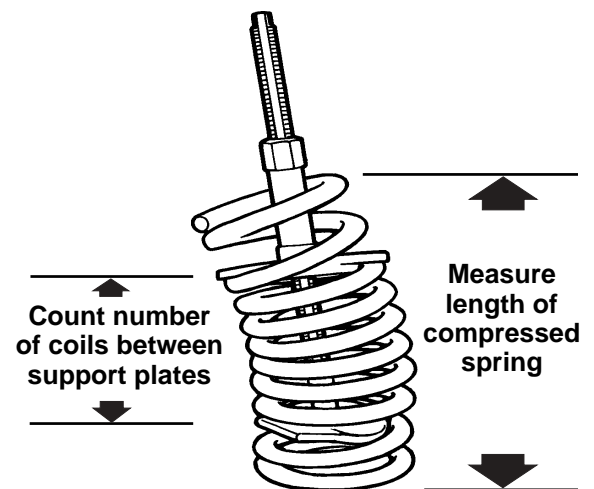

Figure 4
15. Measure the compressed length of the spring, and count the number of coils between the support plates. See Figure 4. Record this data, because it will be used to determine the correct location of the support plates in the new spring.